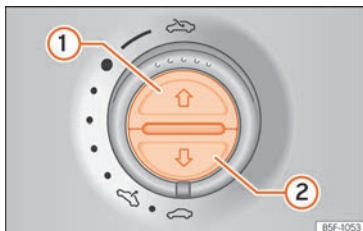

Fig. 112 On the interior roof lining: sunshade blind buttons.
- Press button »» Fig. 112 ① briefly.
- *Sun blind*: within approximately 5 seconds of activating the roll-back function, press and hold button »» Fig. 112 ② until the blind is fully closed.